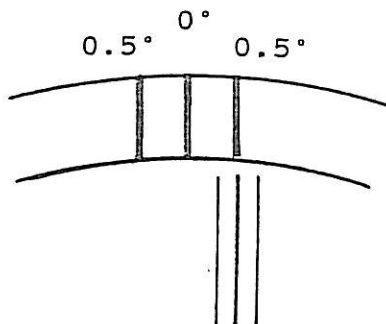

Fig. 17
The lines on each side of the centre mark of the lens retaining ring represent 0.5° misalignment of the optical system (see Fig. 17).
7. To check the horizontal plane repeat the procedure, viewing this time through the right hand horizontal slit of the checking screen (see Fig. 17). In this case the horizontal centre-line of the test screen and the centre horizontal mark on the lens retaining ring should be in line (see Fig. 19). The lines on either side of the centre mark of the lens retaining ring each represent 0.25° misalignment of the optical system.